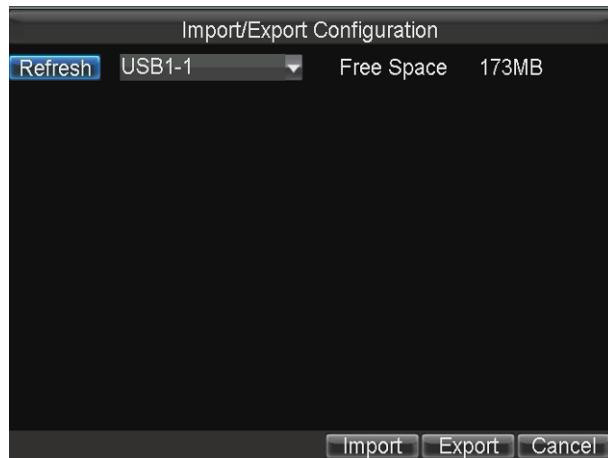

Figure 8.7 Import/Export Configuration Files
1. Enter the Import/Export Configuration Files interface, as shown in Figure 8.7.